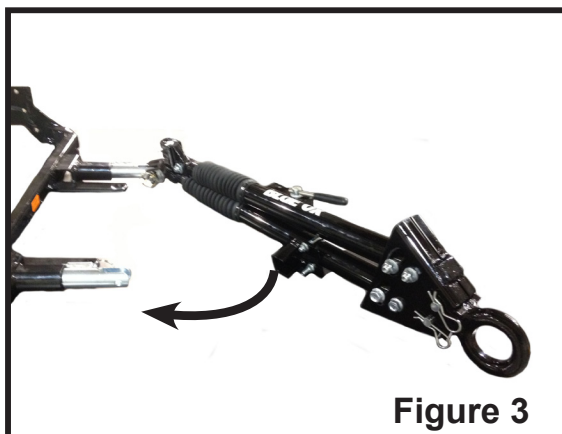

Figure 3
4. Swing the tow bar towards the passenger side (Figure 3). Attach the pintle ring holding bracket to the passenger side attachment tab, using the 1/2" pin and quick pin removed earlier (Figure 4).